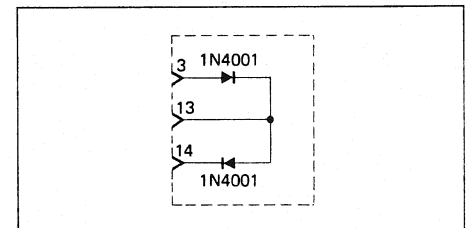

Fig. 4.2
- Adapter circuit according to Fig. 4.2
- Install the adapter circuit according to Fig. 4.2 in place of the BIAS CONTROL PCB. The AF voltages of the input stage can be checked with this circuit (with oscilloscope). The signal gain from input J 102, pin 7/4 to collector Q 116/Q 117 or Q316/Q317 respectively should be approximately 14 dB.